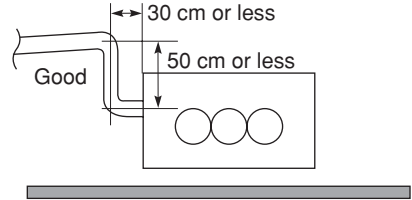

Fig. 3-66
- If it is necessary to increase the height of the drain pipe, the section directly after the connection port can be raised a maximum of 50 cm. Do not raise it any higher than 50 cm, as this could result in water leaks. (Fig. 3-66)